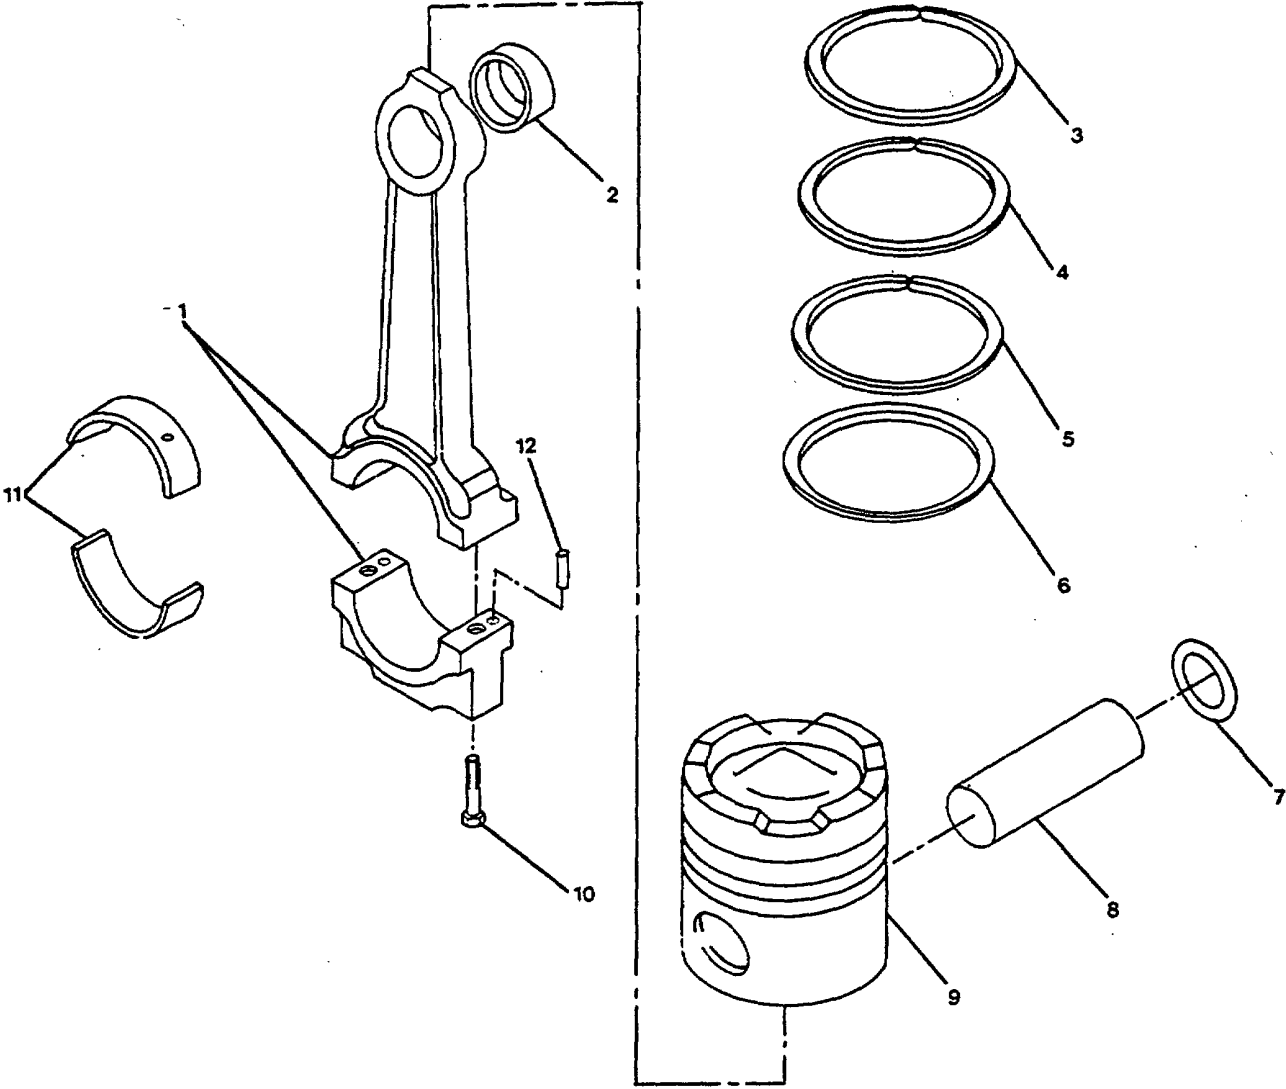

FIGURE 4-28. Connecting Rod and Piston Group.
- a. Disassemble the engine connecting rods as follows (1, Figure 4-28):
- (1) Remove the machine bolts (10) and separate the connecting rod (1).
- (2) Remove the bearings (11).
- (3) Mark the cylinder number and the letter "u" in the flat surface of the bearing tang.
- a. Inspect the connecting rod bearings (11, Figure 4-28).
- (1) Clean the bearings (11) with solvent.
- (2) Visually inspect the rods (1), the connecting rod bearing saddles, and the machine bolts (10) for nicks, cracks, burrs, scratches, or fretting.
- (3) Visually inspect the bearings (11) for damage.
- (4) Visually inspect the bearing seating surface for nicks or burrs.
- (5) If nicks or burrs can not be removed with a fine crocus cloth, the bearings (11, Figure 4-28) must be replaced.
- (6) Measure the rod bearing shell (11) thickness with an outside micrometer that has a ball tip.
- (7) The bearing thickness should be between 0.093 inches (2.362 mm) and 0.0947 inches (2.405 mm). Replace bearing shell (11) if it is not within these measurements.
- b. Clean and inspect the connecting rods (1).
- (c) Measure the crankshaft bore in the connecting rod (1, Figure 4-28) with a dial bore gauge.- The connecting rods must have a crankshaft bore with a diameter between 3.3157 to 3.3167 inches (84.219 to 84.244 mm).
- (d) Measure the inside diameter of the piston pin bushing (2). Use a dial bore gauge. The inside diameter must measure between 2.0010 to 2.0015 inch (50.825 to 50.838 mm).
- (e) If the crankshaft bore is not correct, the connecting rod (1) must be machined to the correct size or replaced.
- (f) Discard all connecting rods (1) that have cuts, scratches or other damage that is deeper than 1/32 inch (0.80 mm) on the I-Beam.
- (8) Calibrate the rod checking fixture, ST-561, and locating mandrel, ST-563, and check the connecting rod length.
- (e) Put the connecting rod (1) in the fixture. Move the dial holder so that the contact points of the indicators are touching the mandrel in the piston pin bore.